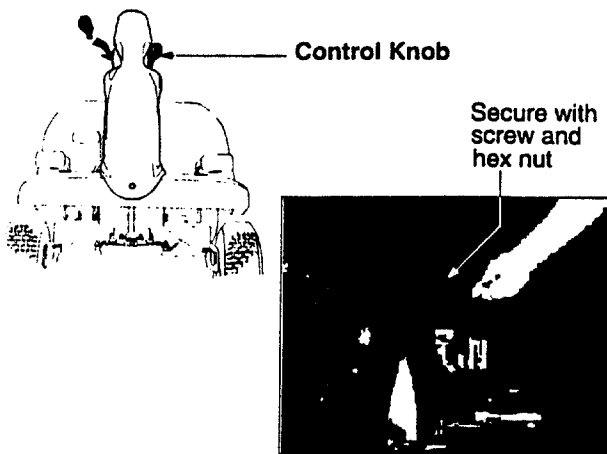

Figure 7
- Attach control knobs to the shift lever and throttle/choke control lever using pan head machine screws and hex nuts. See Figure 7.